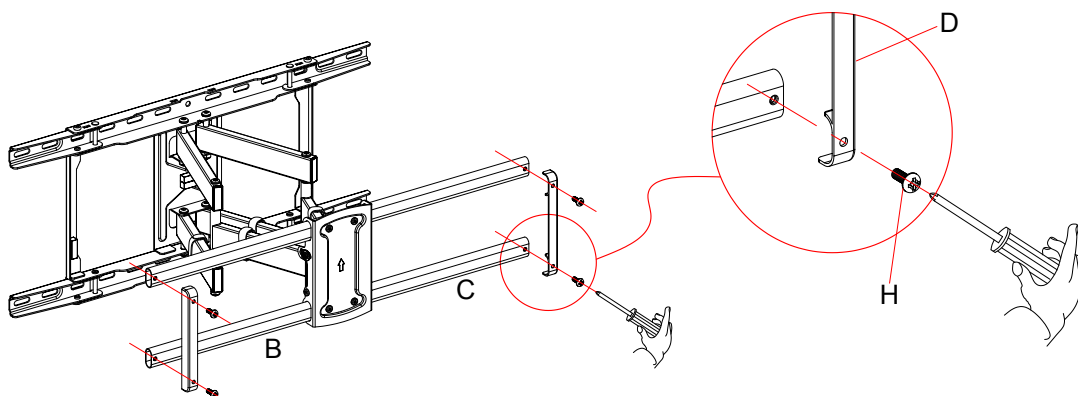

Figure 5
Step 4: Attach end support (D) onto arm extensions (B,C) using screwdriver and screw (H).(Figure 5)